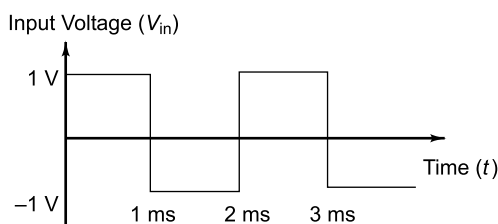

Fig. 5.93
31. When a square wave input voltage as shown in Fig. 5.93 is applied to the differentiation circuit, what will be the output voltage waveform? Assume missing parameters.